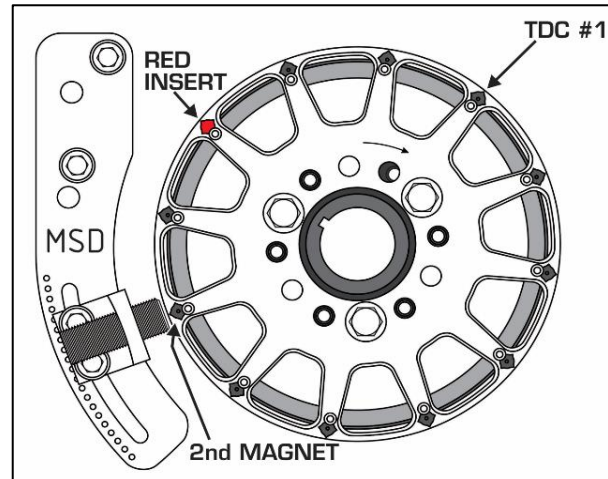

Figure 4: (Example) Aligning 2nd tooth, Passenger Side Mounting
4. Rotate the crank wheel until the 2nd-tooth (Magnet, black insert) after the red insert lines up with the approximate centerline of the sensor. **Figure 4** show an example. The wheel was designed such that the bolt-holes on the wheel should line up to those of the balancer under these conditions. This should provide an ignition reference angle of 60° BTDC #1, assuming a standard key-way location on the crankshaft.